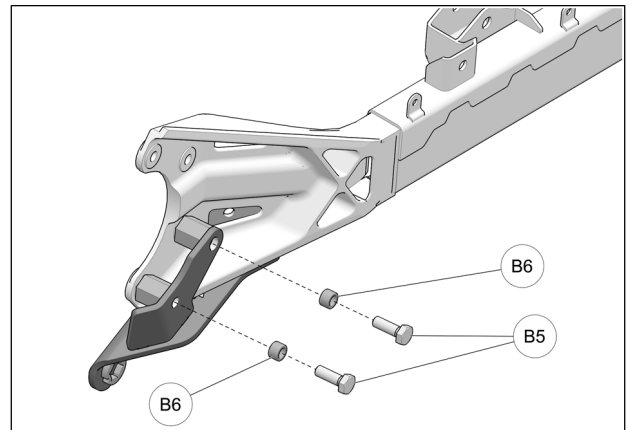

Fig. 8
8. Secure anchor bracket to suspension trailing using the provided spacers (**B6**) and bolts (**B5**). Torque bolts to 50 N•m [37 lb•ft]. See Fig. 8